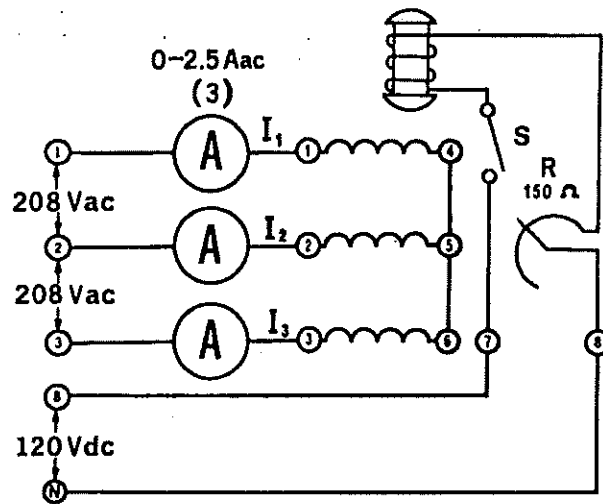

Figure 9-1.
- 1. Because of its constant running speed, the synchronous motor will be used to mechanically drive the DC generator. Using your Power Supply, AC Ammeter and Three-Phase Synchronous Motor/Generator, connect the circuit shown in Figure 9-1.